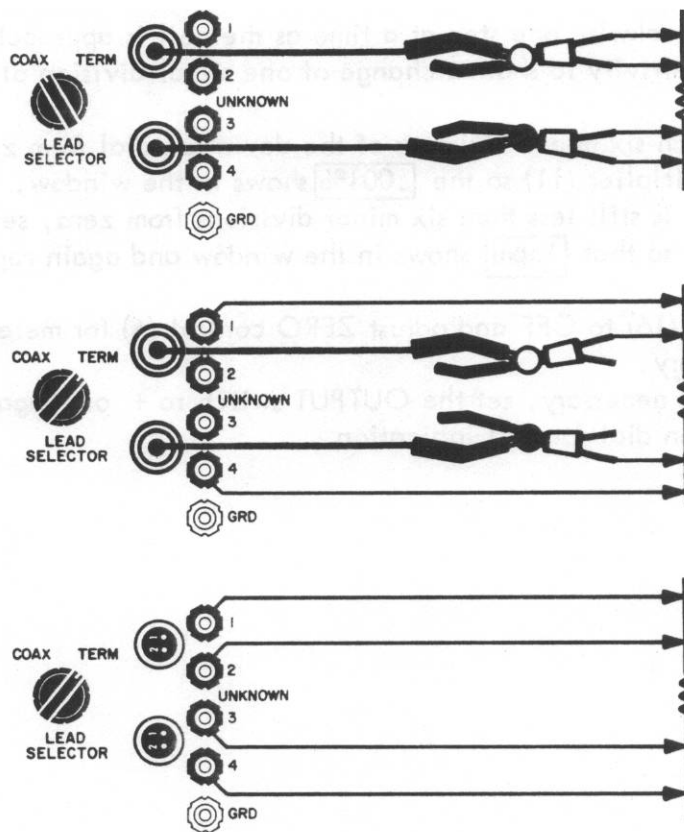

Figure 2-3, Test Connection
Connect resistor and set LEAD SELECTOR switch (8). Use appropriate position for the type of lead and test connection to be used. See Figure 2-3.